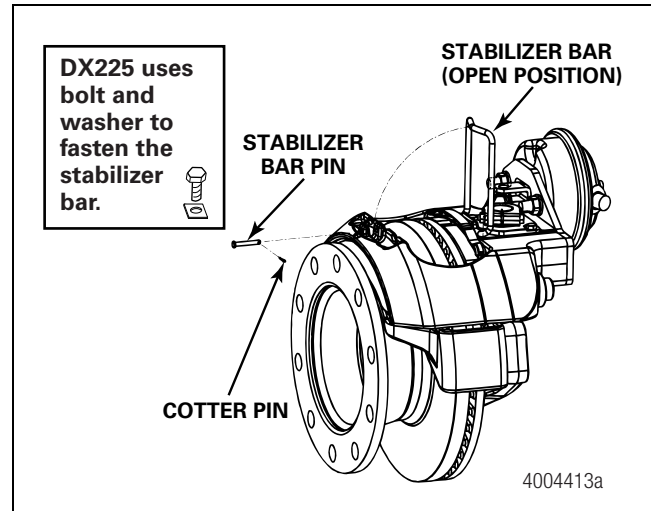

Figure 4
3. Remove the stabilizer bar retainer and cotter pin. Open the bar so that it is out of the way. Figure 4.